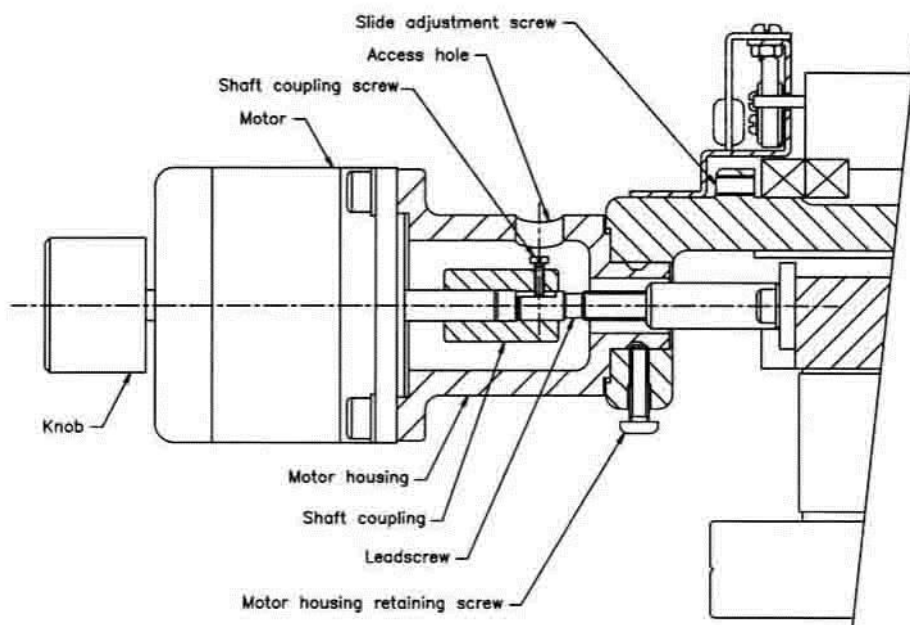

Figure 2 - Motor on T105 Table
2.4.1 Motor installation (T105 tables) (Refer to fig.2)